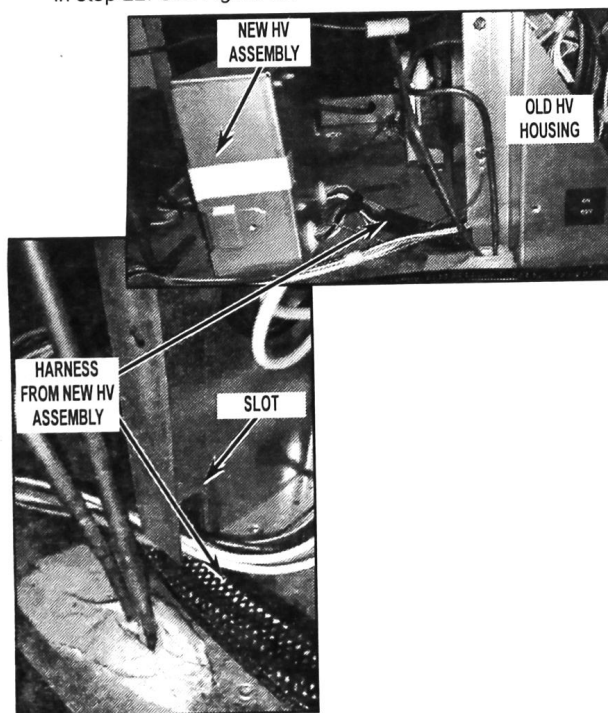

FIGURE 20
25. Place new HV assembly to the left of where old HV housing is located and route harness through the slot and into the old HV housing as shown, and proceed to make all the connections to the connectors removed from the old HV board in step 22. See Figure 20.